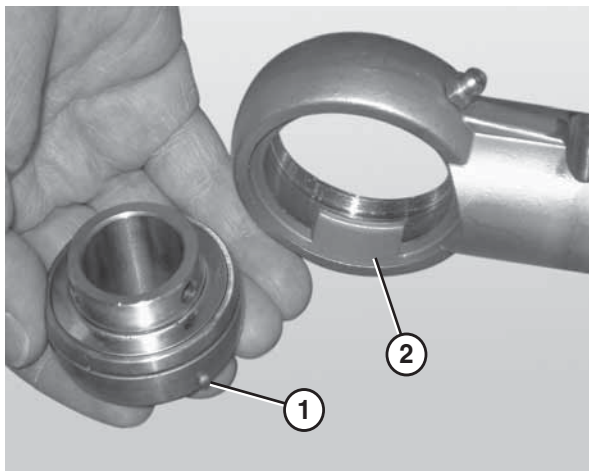

Figure 80
4. Remove the worn or damaged bearing (**Figure 80**).
When inserting the new bearing, make sure the anti-rotation notch (Figure 80, item 1) on the bearing lines up with the groove inside the housing (Figure 80, item 2).